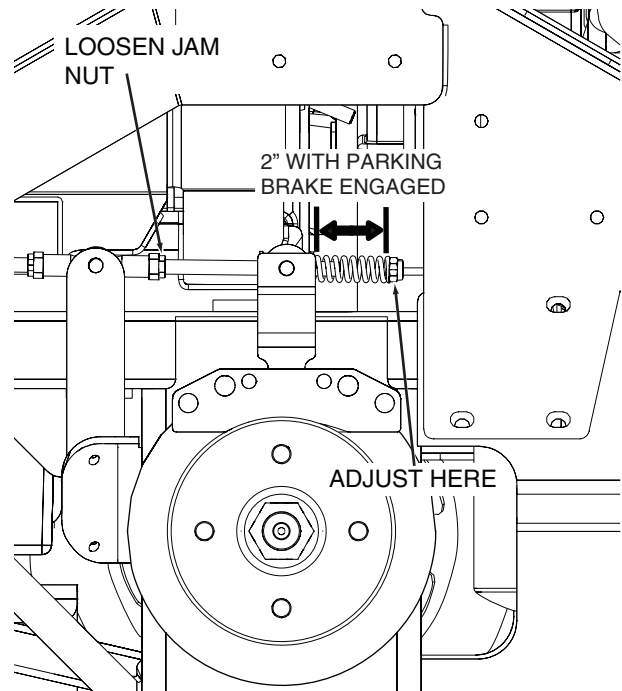

Figure 6-2. Brake Rod Adjustment
3. Loosen the jam nut at the front of the brake linkage. See Figure 6-2.
4. With the parking brake in the locked position, turn the adjustment nut until the brake spring has an overall length of 2". See Figure 6-2.